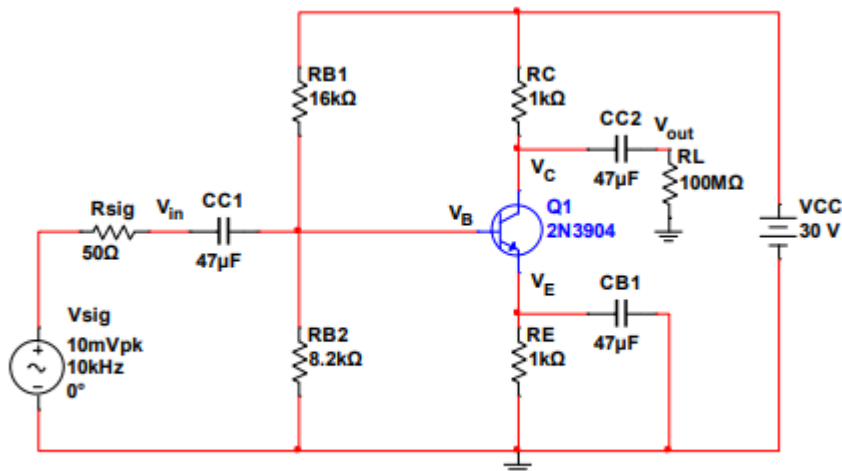
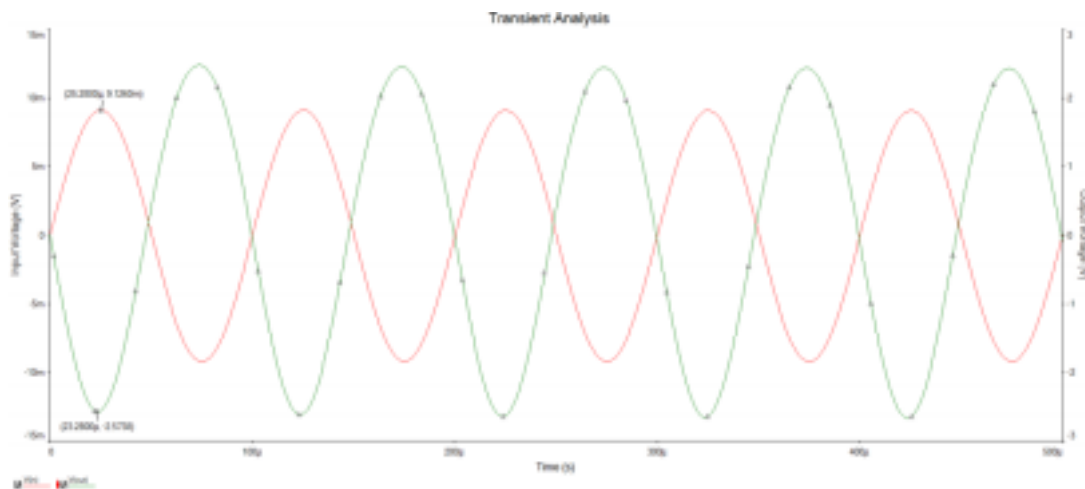

Figure P.4.1 – Common Emitter Amplifier
Figure P.4.2 – Input and Output Voltages Plotted with Separate Y-Axes
1. **Using** the biasing circuit you have constructed for the BJT, apply a small input signal (10mV @ 10kHz) to the base of the transistor in series with a 50Ω resistor, as shown in **Figure P.4.1**. We refer to this signal as V_{sig} . The resistor models the 50Ω impedance of the function generator (Wavegen).
2. **Perform a transient analysis** to plot five cycles of the input and output voltage as labeled in **Figure P.4.1**. Because the output is amplified and much greater than the input voltage, follow these steps to adjust the axes to clearly show values for both the input and output waveforms.
- a. **Right click** on any axis to get to axis properties. **Label** the left axis **Input Voltage (V)**.
- b. **Label the Right axis as Output Voltage (V) and** check the box to **enable** this axis.
- e. **Click Apply** to save these changes. Your graph should look similar to **Figure P.4.2**.